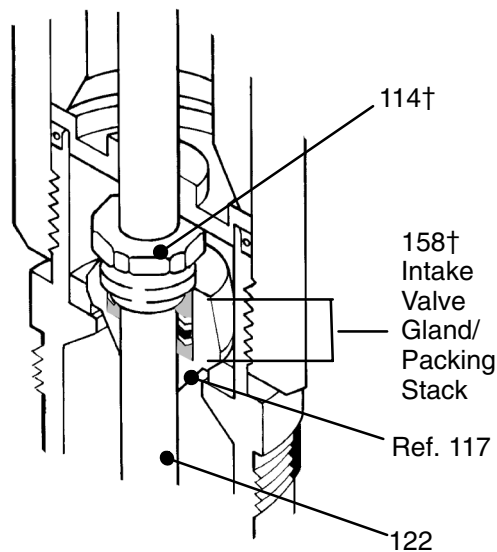

Fig. 7
6. Install the piston ball (132) in the piston valve housing (110). Apply medium grade thread sealant to the threads of the piston valve (112) and housing (110). Screw the piston valve into the piston valve housing, torquing to 81–102 N•m (60–76 ft-lb). Screw the piston rod (122) into the piston valve, aligning the holes. Insert the cotter pin (126†).
7. Place the pump housing (109) in the vise. Install the new o-rings (125†) on the pump cylinder (111). Lubricate the cylinder and slide it into the pump housing as far as possible.
8. Slide the rod guide (113) onto the piston rod (122), with the flat side facing down.
10. Refer to Fig. 7. The gland/packing stack (158†) for the intake valve is preassembled. Do not disassemble the stack. Install the gland/packing stack in the intake cylinder's packing housing (Ref. 117). Be sure the lips of the v-packings are facing up. Install the packing nut (114†) and torque to 34–47 N•m (25–35 ft-lb). Slide the assembly, packing nut first, onto the piston rod (122).
11. Place an o-ring (124†) around the intake cylinder (117). Screw the cylinder into the pump housing (109). Torque to 129–149 N•m (94–110 ft-lb).
12. Thread the nut (120) onto the bottom of the piston rod. Install the valve plate (118), valve guide (121), priming piston (119), and the other nut (120).
13. Holding both nuts (120) with a wrench, torque the bottom nut to 54–81 N•m (40–60 ft-lb).
14. Tighten the packing nut (140). Torque the wet-cup nut to 54–81 N•m (40–60 ft-lb).
15. Reconnect the displacement pump (14) to the air motor (15). Refill the wet-cup (136) with TSL. Reconnect the ground wire to the air motor if it was disconnected during service.